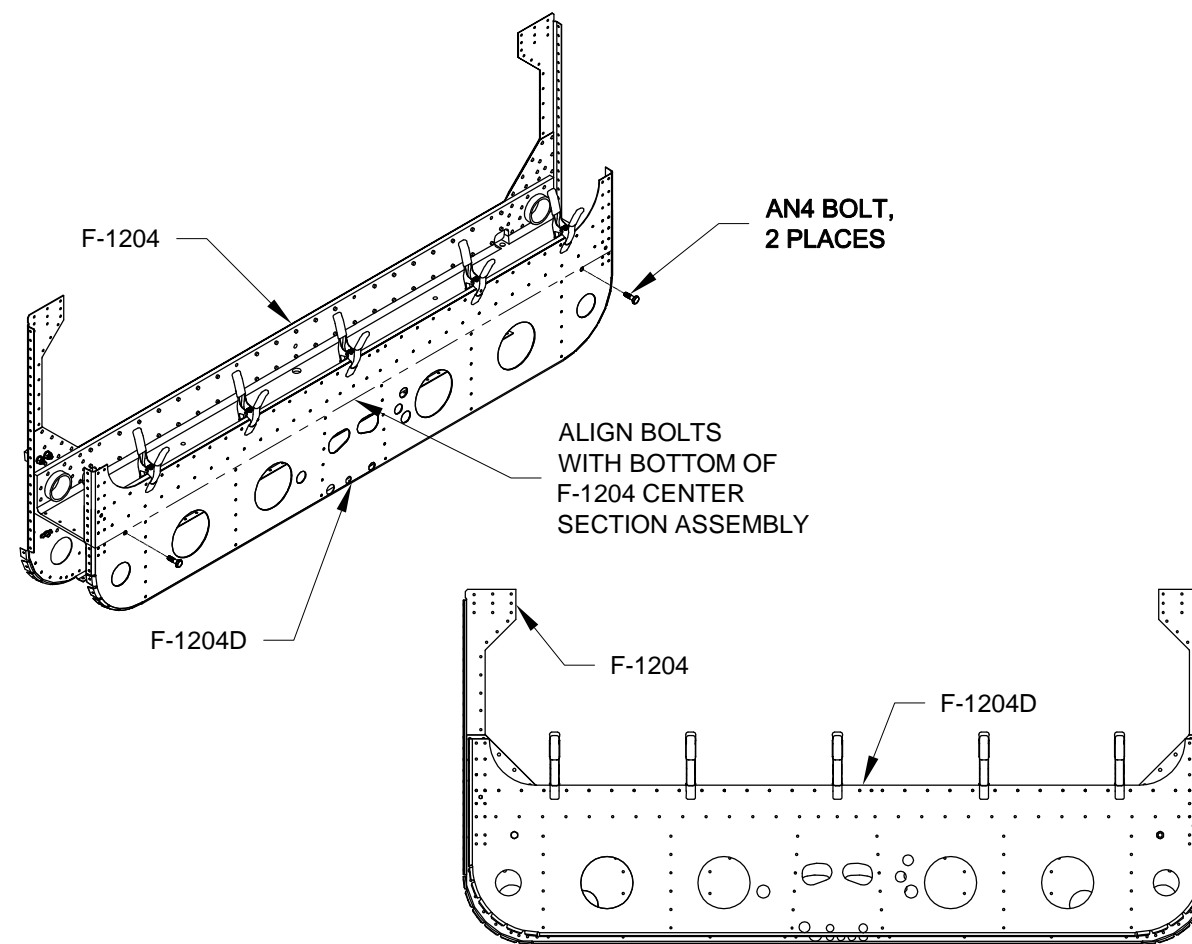

FIGURE 4: ALIGNING CENTER SECTION AFT BULKHEAD
Step 4: Insert two AN4 bolts into the 1/4 inch holes punched in the F-1204D Center Section Aft Bulkhead. Clamp the center section aft bulkhead to the F-1204 Center Section Assembly as shown in Figure 4. The bottom surface of the center section channel rest on the shanks of the two AN4 bolts.